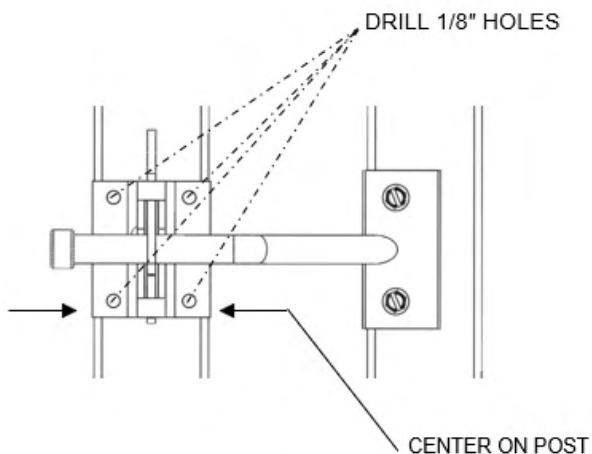

FIG. 7.19
7.8.8. Clip the latch to the finger catch and center on the step or ramp vertical square tube. Mark center of the holes with pencil, then drill four 1/8" holes through one side of the vertical handrail tube (FIG. 7.19).